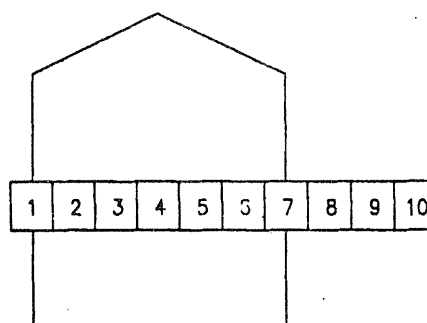

Fig. 4.54 Short pitched coil
- But as shown in figure 4.54 if one side of the coil is kept in slot No.1 and the other side is kept in slot No.7, then it is called the short pitched coil and the winding is called the short pitched winding. In this case the coil pitch is $7-1 = 6$, which is two slots less than the pole pitch.